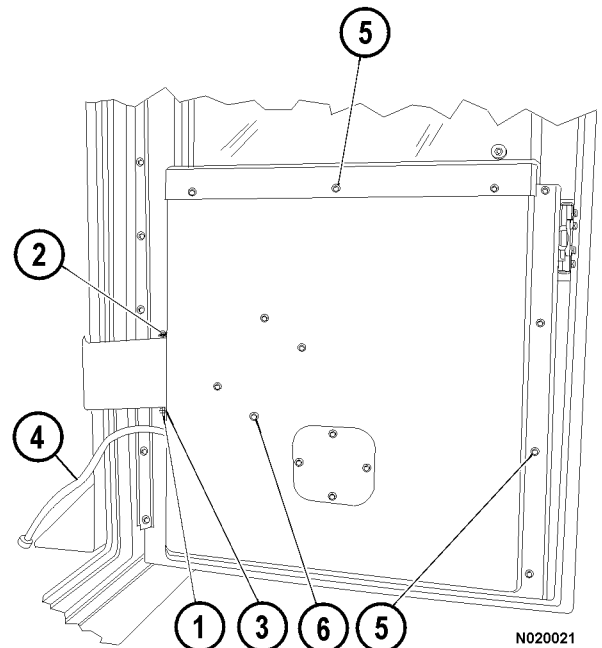

FIGURE 2-6.
- a. Remove hair pin clip (1, Figure 2-6) and bolt (2) from the door check strap closest to the door.
- b. Remove two capscrews (3) which secure the door strap bracket to the door.
- c. Disconnect wiring harness (4) from the window regulator.
- e. Before removing all door panel mounting screws, support the panel to prevent the assembly from dropping. Remove 15 mounting screws (5).
1. Remove hair pin clip (1, Figure 2-6) and strap pin (2) from door check strap (3).
22. Lift up the inner door panel, window regulator and glass to align the screw holes in the panel with the holes in the door frame. Install door panel screws (5, Figure 2-6) that secure the panel to the door frame.
23. Connect regulator harness (4) to the floor of the cab.
24. Align the opening of door check strap (3) with the holes in the bracket and install strap pin (2). Install hair pin clip (1).
4. Remove four window regulator mounting screws (6, Figure 2-6).